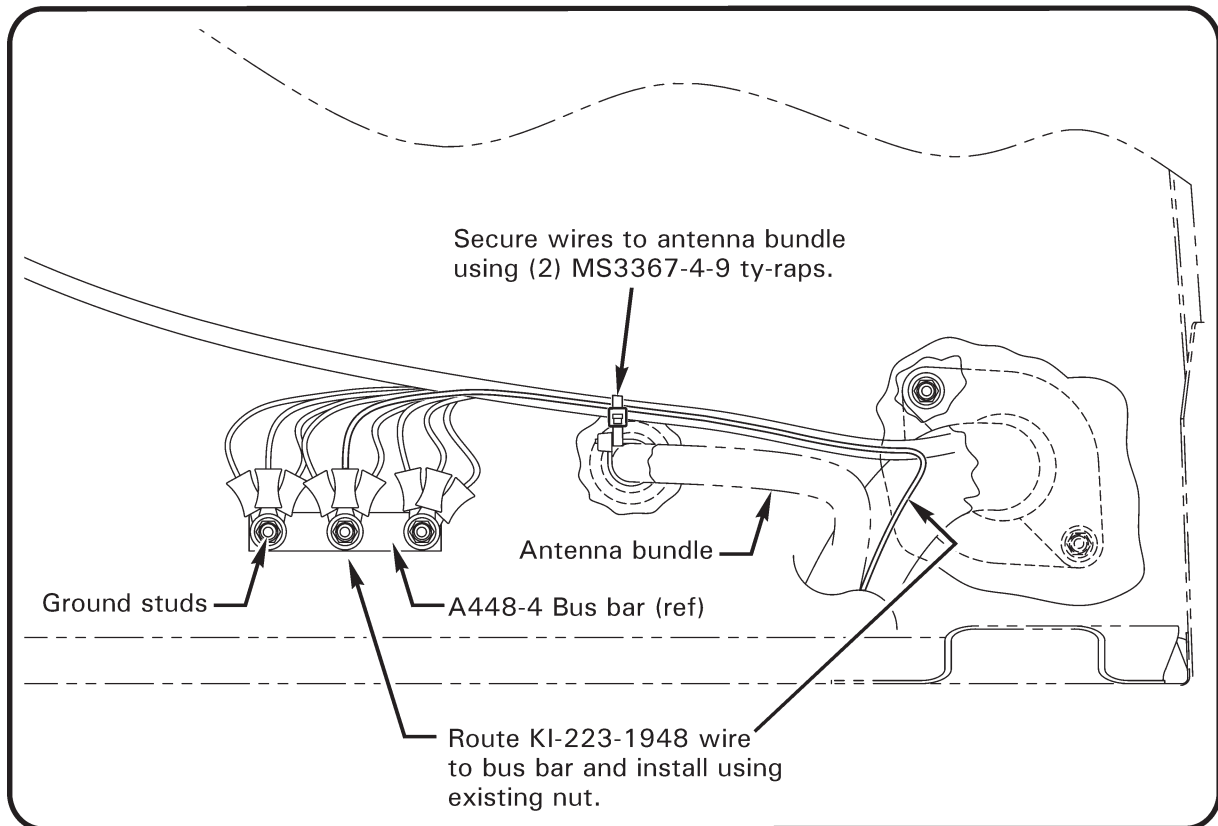

FIGURE 2 Bus bar ground location
5. Route -1948 wire along F059 harness wires and thru NAS557-14A grommet on firewall, displacing B270-5 sealant as necessary, to ground bus depicted in Figure 2. Strip end of wire and crimp on B260-3 ring terminal. Inspect crimp per MM § 20-94 and verify security of terminal. Install terminal on least-populated ground stud using existing nut. Secure wires to harness using appropriately-sized ty-raps as required. Remove redundant ty-raps as desired.